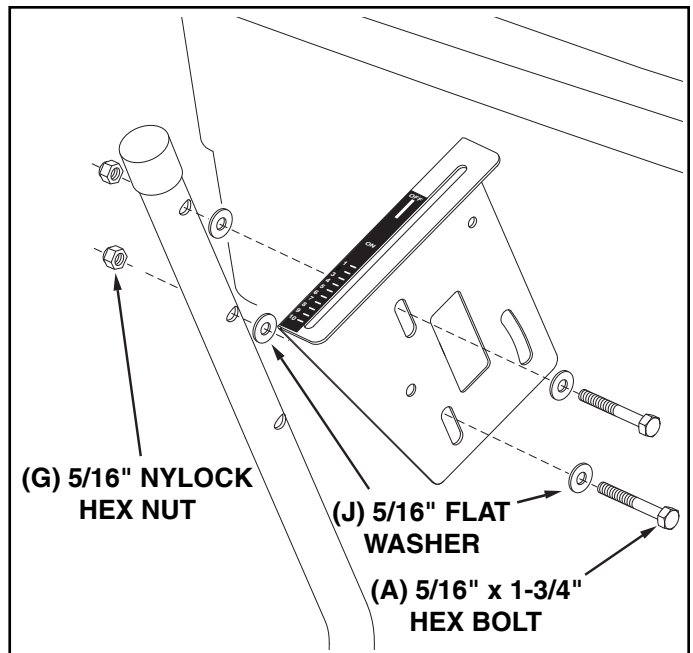

FIGURE 7
16. Assemble the flow control mounting bracket to the flow control mounting tube using two 5/16" x 1-3/4" hex bolts (A), four 5/16" flat washers (J) and two 5/16" nylock hex nuts (G). **DO NOT TIGHTEN YET.** See figure 7.